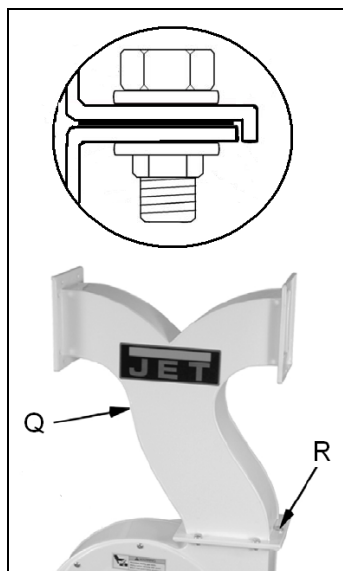

Fig 4
Place the connector tube (Q, Fig 4) on the fan housing and attach with 6 hex screws, washers and nuts (R).